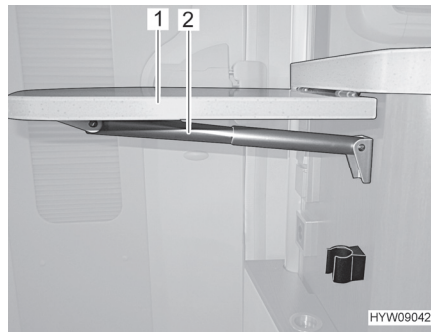

Fig. 84 Folding worktop
- Hold the folding worktop (Fig. 84,1) from below and pull gently to release it from the lock position.
- Swing up the table top until the fixture of the telescopic holder (Fig. 84,2) engages. Let go of the worktop.